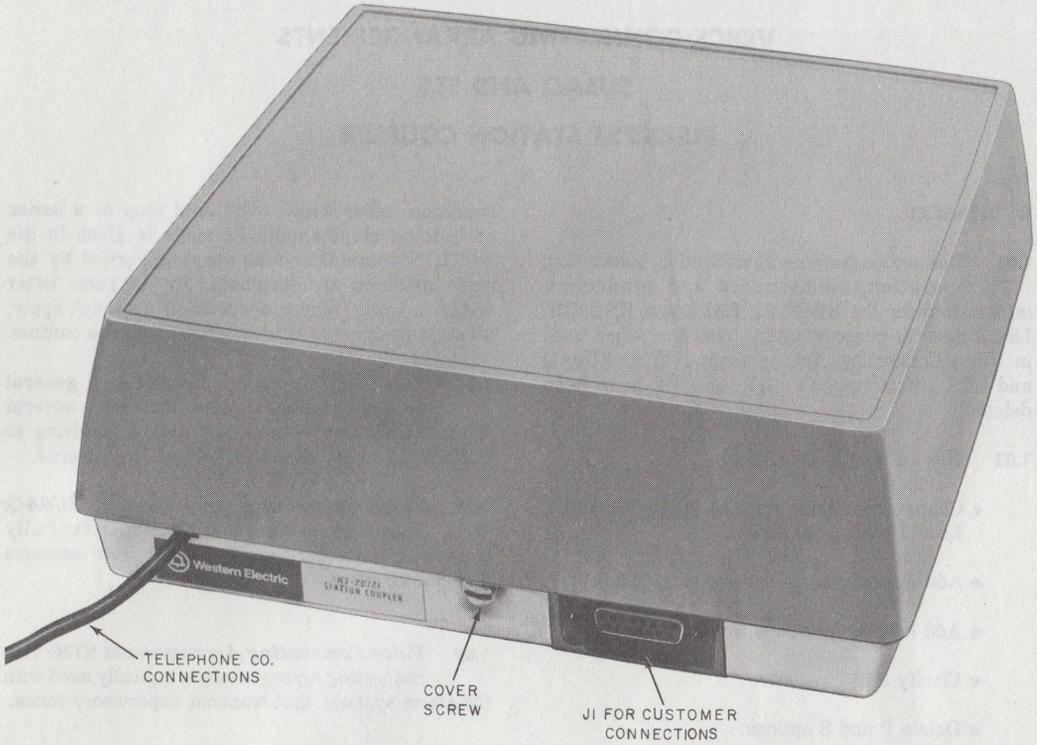

Fig. 1—KS-20721, List 1 or List 3 Station Coupler
1.03 The KS-20721 station coupler (Fig. 1) is used to provide services similar to those provided by the KS-20008 control unit (MD) and the KS-20445, List 1 control unit for alarm systems. However, the plug and wiring connections may be different and substitution should not be made without customer approval.
- Coupler, Station, KS-20721, L1 (Fig. 1 and 2)
- Coupler, Station, KS-20721, L3 (Fig. 1). The L3 consists of the following items which may be ordered separately and assembled in the field (see 2.03).
3.02 A 15-pin connector (J1, Fig. 1) is located on the base of the unit to connect the transmission path and control leads to the CPE. The mating